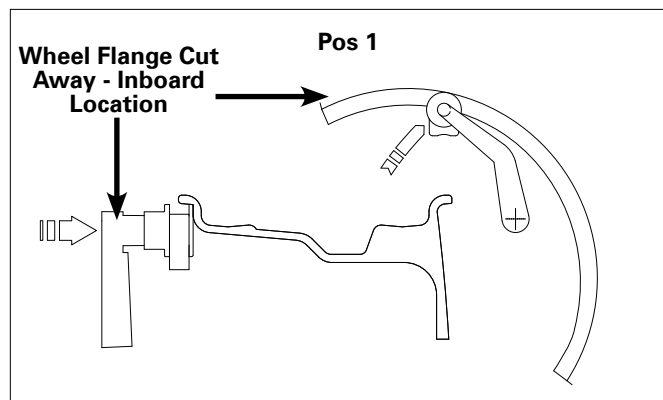

Figure 14 - Automatic A & D Measurement At Clip 1 Weight Location
- For Clip 1 data entry, move the arm from home position and place the offset arm up against the wheel flange in either position 1 or 2, as shown in figure 14.